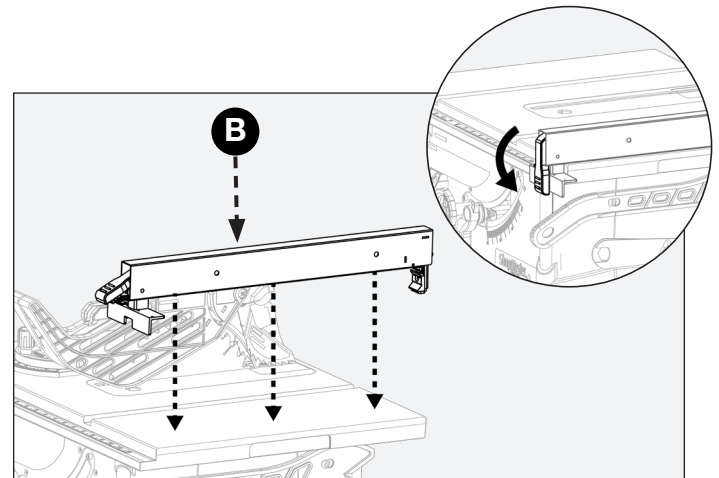

FIGURE 16
Position rip fence (B) over the table as shown in Fig. 16. Lower the rear end of the rip fence (B) over the back of the table; then lower the front end (with lock handle) over the front of rail on the front of the saw. Engage lock on the rip fence after placing fence in desired location on the table (Fig. 16).